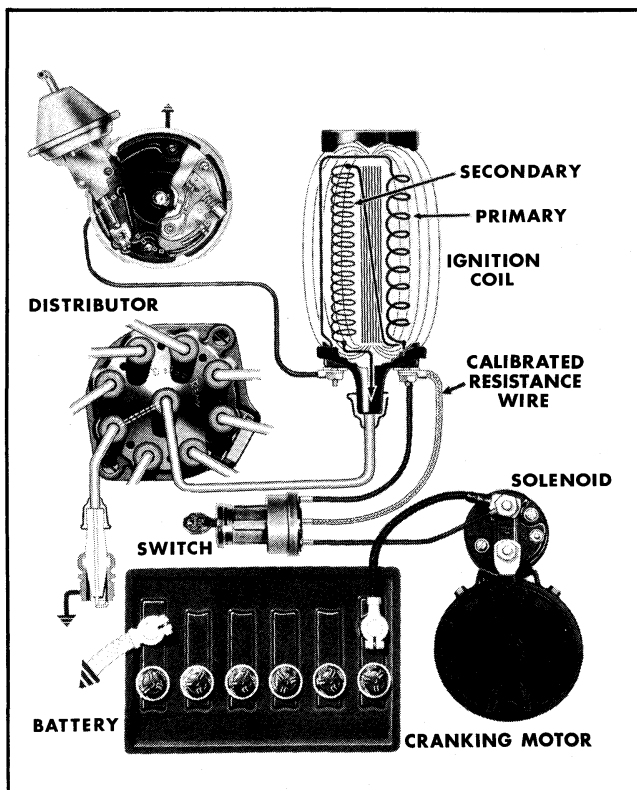

Fig. 11-49 Ignition Circuit
10. Connect voltmeter positive lead to regulator mounting bolt, and voltmeter negative lead to battery negative post (Fig. 11-49). Record the voltage drop.
The ignition circuit (Fig. 11-49) includes the distributor, ignition coil, ignition resistance wire, ignition switch, spark plugs, battery, and the resistance type secondary cables.